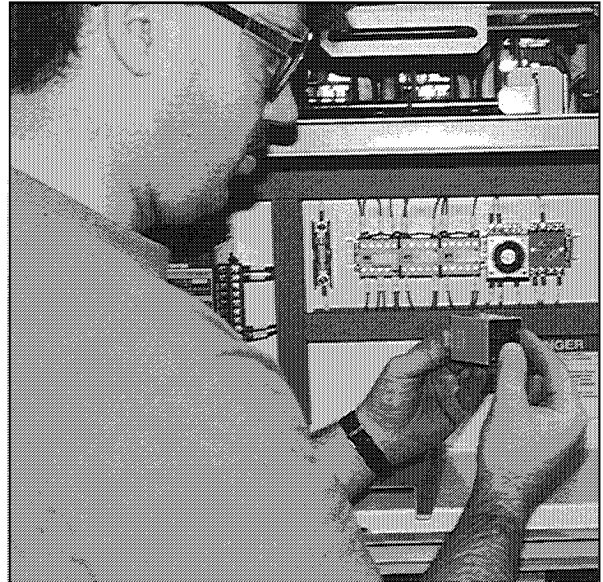

Fig. 36 Device/Mechanism Check
- All devices should be checked for damage (Fig. 36). All necessary repairs or replacements should be made.